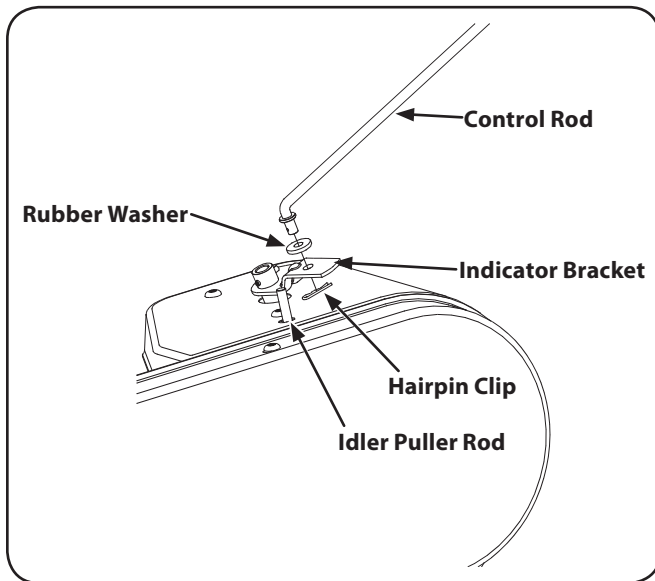

Figure 3-5
- Insert the shorter (angled) end of the control rod through the indicator bracket on the shift cover and secure with the hairpin clip that was previously removed. See Fig. 3-5.